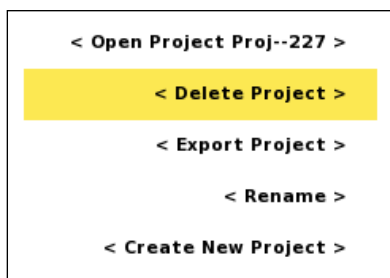

Figure 97 Project options menu
- Highlight <Delete Project> (Figure 97)